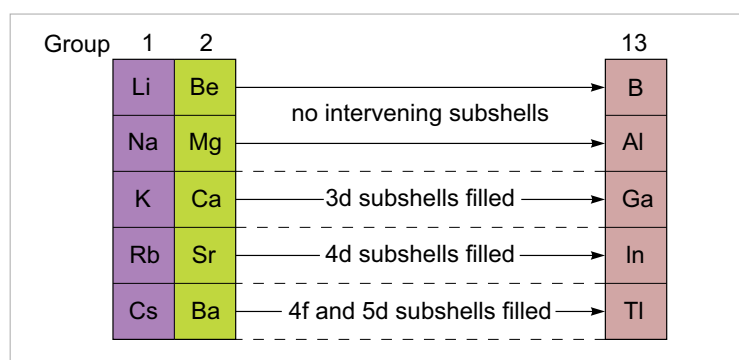

Figure 21 Filling of electronic subshells between Groups 2 and 13 in the Periodic Table.
- Consider Figure 21. Why might the ionisation energies of gallium, indium and especially thallium be unexpectedly raised relative to those of aluminium?